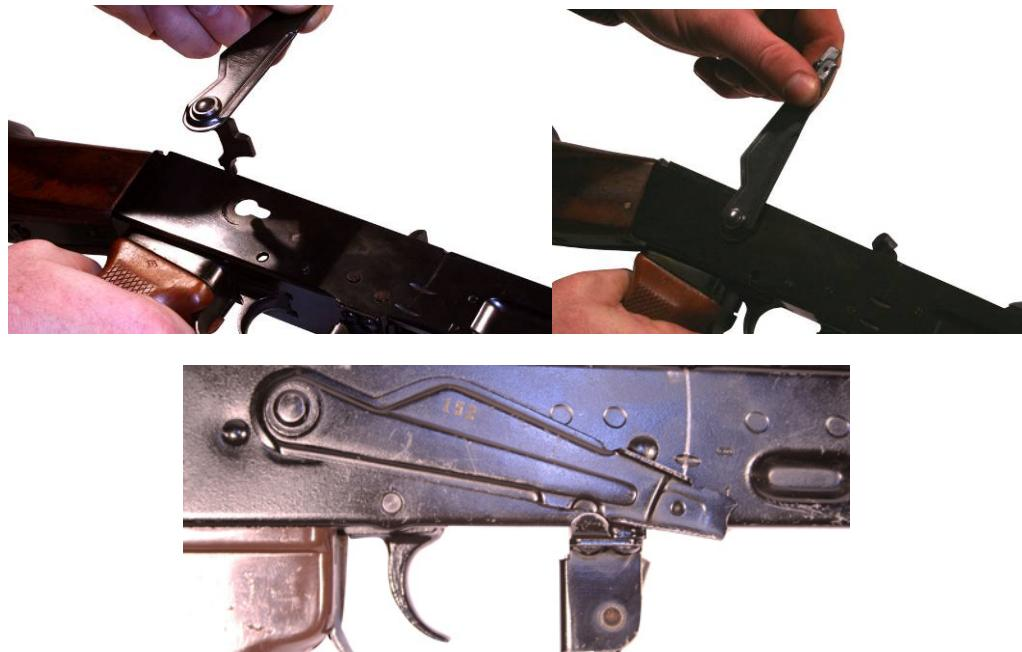

Figure 66. Installing the Selector Lever and Setting on SEMI.
g. With the selector lever in the 12 o'clock position, install it on the right side of the receiver and rotate down to the SEMI position. Refer to Figure 66.